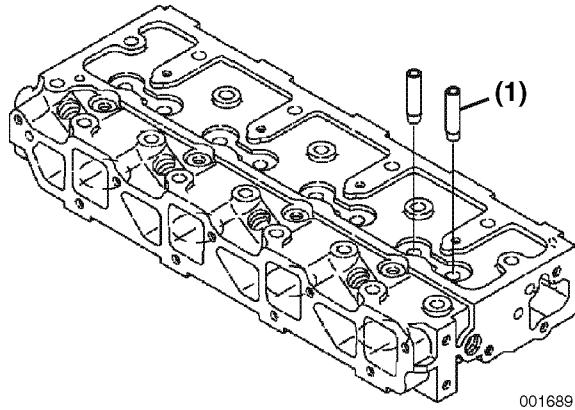

Figure 6-28
2. Immediately after removing the valve guides from the freezer, insert the valve guides (Figure 6-28, (1)) in their proper positions.